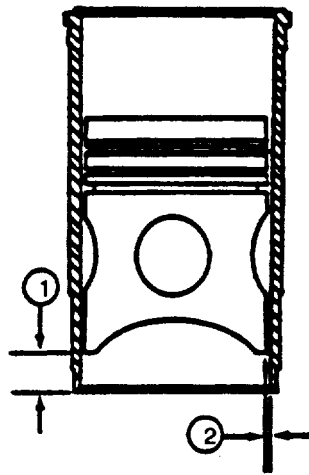

FIGURE 3-134. Measuring Piston to Liner Clearance
- (1) Put piston (without rings) in matched liner with piston FRONT and liner FRONT aligned. Move piston down until bottom edge of piston skirt is 1.00 inch (25.4 mm) above bottom of liner. Refer to FIGURE 3-134 (1).
- (2) Use a feeler gage to measure distance (FIGURE 3-134 (2)) between piston skirt and liner 90 degrees to piston pin bore. Record measured distance and compare with specifications given. Clearance should be 0.003 to 0.006 inch (0.08 to 0.15 mm).
- (3) Turn piston 90 degrees in liner. Use a feeler gage to measure distance between piston skirt and liner 90 degrees to piston pin bore. Record measured distance and compare with specifications given.
- (4) The difference between the two measurements in steps (2) and (3) is distance liner is out of round at bottom.
- (5) Remove piston from liner. Put piston in liner upside down with piston FRONT and liner FRONT aligned. Move piston so bottom edge of piston skirt is 1.00 inch (25.4 mm) (1) below top of liner. Use a feeler gage to measure clearance (2) between piston skirt and liner at 90 degrees to piston pin bore. Record the measured clearance.